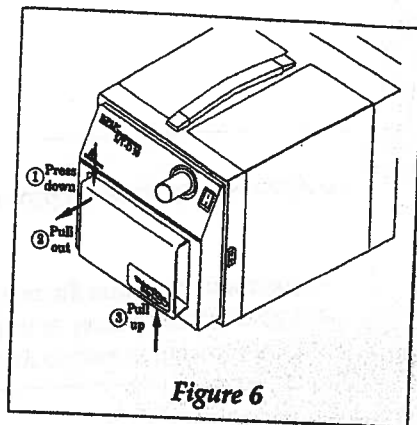
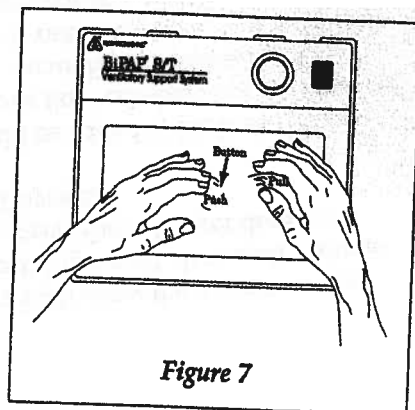

Figure 6
Figure 7
- Step 1** Press down (1) and pull out (2) on the top of the Whisper Cap. You need only press down about $\frac{1}{8}$ " to allow the top lip of the Whisper Cap to clear the filter retainer. See Figure 6.
- Step 2** Pull up (3) on the bottom of the Whisper Cap until the bottom lip clears the filter retainer.
- Step 3** Turn OFF (0) the BiPAP unit and unplug the electrical cord from the wall outlet and from the back of the unit.
- Step 4** Locate the button in the center of the filter holder beneath the surface of the filter. Push in on the button and pull the filter out from all four sides of the filter holder. See Figure 7.